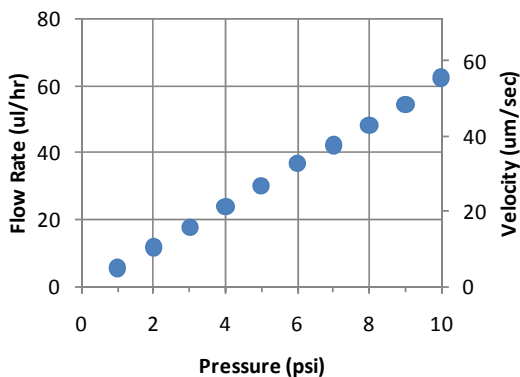
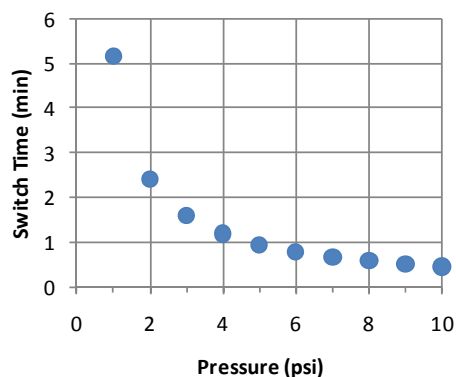

Figure 5. Flow Rate and Chamber Flow Velocity
Figure 6. Total Chamber Switch Time
9. Flow properties are given in Figures 5 and 6. Figure 5 shows the total flow rate out of each inlet well. The 2nd y-axis, flow velocity, is of the laminar front moving through the chamber, or the local switch rate for cells in the chamber. Figure 6 gives the time for the laminar front to move through the entire chamber. If more than one channel is open at a time, multiply the flow rate/velocity by the number of open channels. Note: flow of liquid from wells 7 or 8 is roughly 100x faster than wells 1-6.
17. For extremely fast switching, utilize the medium inlet channel (col 8). Replace the liquid in col 8 with the desired switching solution. Flow 8 at the desired pressure. The switch time will be ~100x faster than listed in Figure 6. For example, at 2 psi, the chamber will be replaced in approximately 2 seconds (~20 ul/min). Make sure not to flow well 8 for extended periods of time in order to avoid emptying the well and introducing air bubbles.